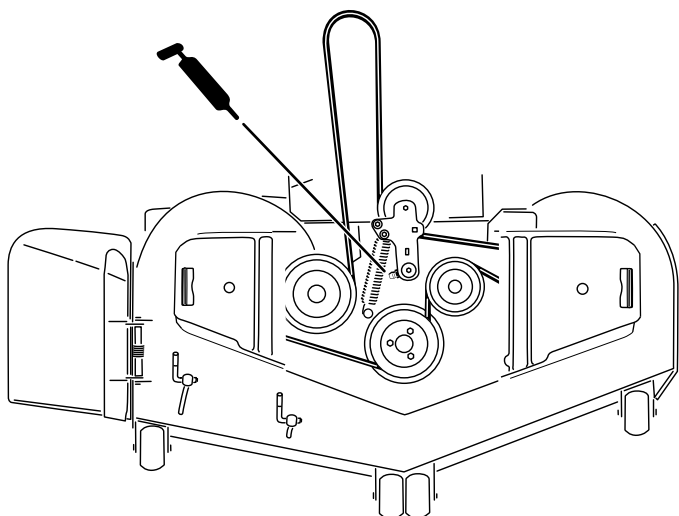

Figure 44
5. For all other machines, grease the mower deck idler-pulley pivot until grease comes out the bottom (Figure 44).